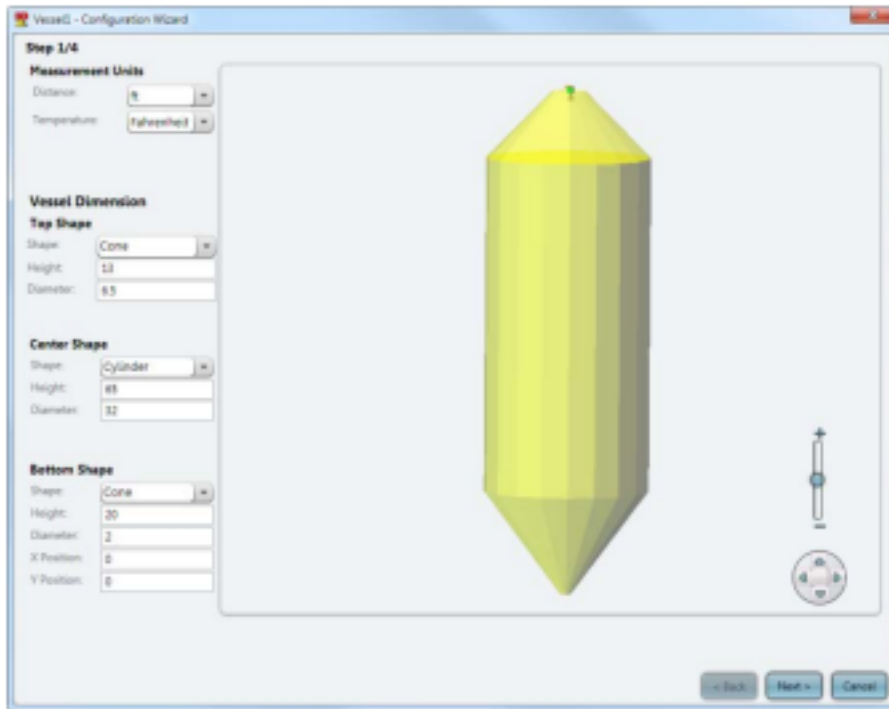

Figure 22: Configuration Wizard Step 1 – Vessel Dimensions
- 1 Select the vessel from the vessel selection bar (refer to *Main Screen on page 27*) and from the Device menu select **Device Configuration Wizard...** The Configuration Wizards opens (*Figure 22*). Set the **Measurement Units** in use for **Distance** and for **Temperature**.